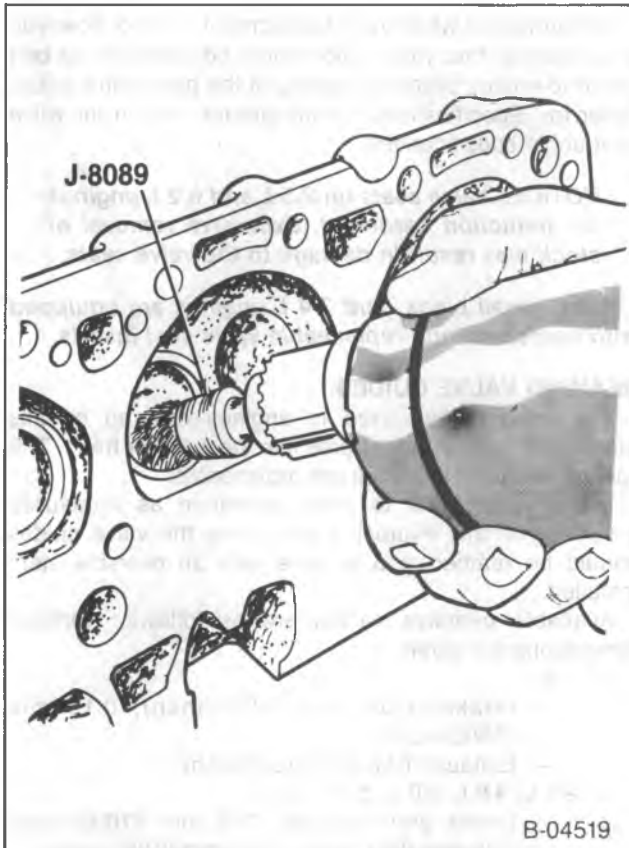

Figure 30—Cleaning the Combustion Chambers (Typical)
Clean (Figures 30 and 31)
- Carbon from the combustion chambers. Use J 8089 (figure 30).